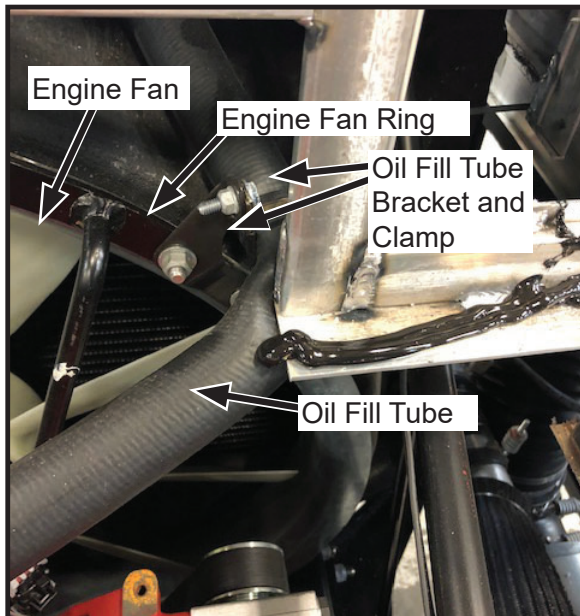

Figure 2
- Locate the oil fill tube. See Figures 2 and 3.
- Locate the bracket on the chassis securing the oil fill tube. Refer to Figures 2 and 3.